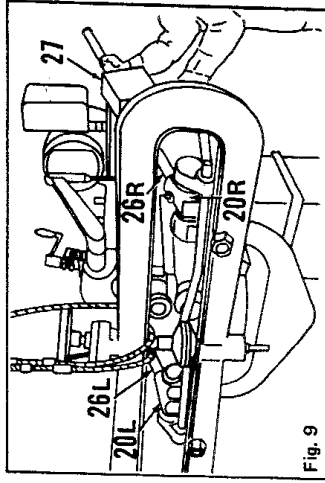

Fig. 9
6. Install curved counterbalance rod (26R) (Fig. 9) into R.H. pivot socket (20R). Install straight counterbalance rod (26L) into L.H. pivot socket (20L). When needed, slide counterbalance weights (27) over rods (26R) & (26L) and adjust as necessary to balance flanging attachment. Tighten all set screws and locknuts on the flanging assembly and remove sling.